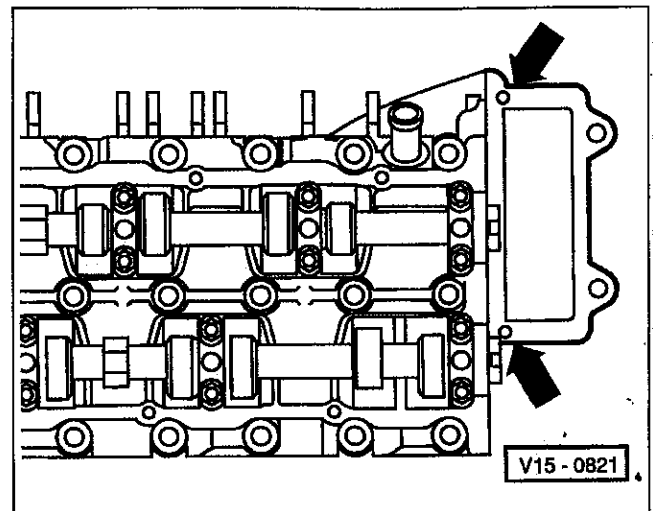

Fig. 32. Clean out old sealer from 3 mm holes (arrows) and re-seal holes and gasket surface using Volkswagen sealant AMV 188 001 02 or equivalent.
17. Install the camshaft sprocket cover (with new O-ring) using Volkswagen sealant AMV 188 001 01 or an equivalent gasket sealer on the gasket mating surfaces. See Fig. 32. Tighten the larger M8 bolts first.